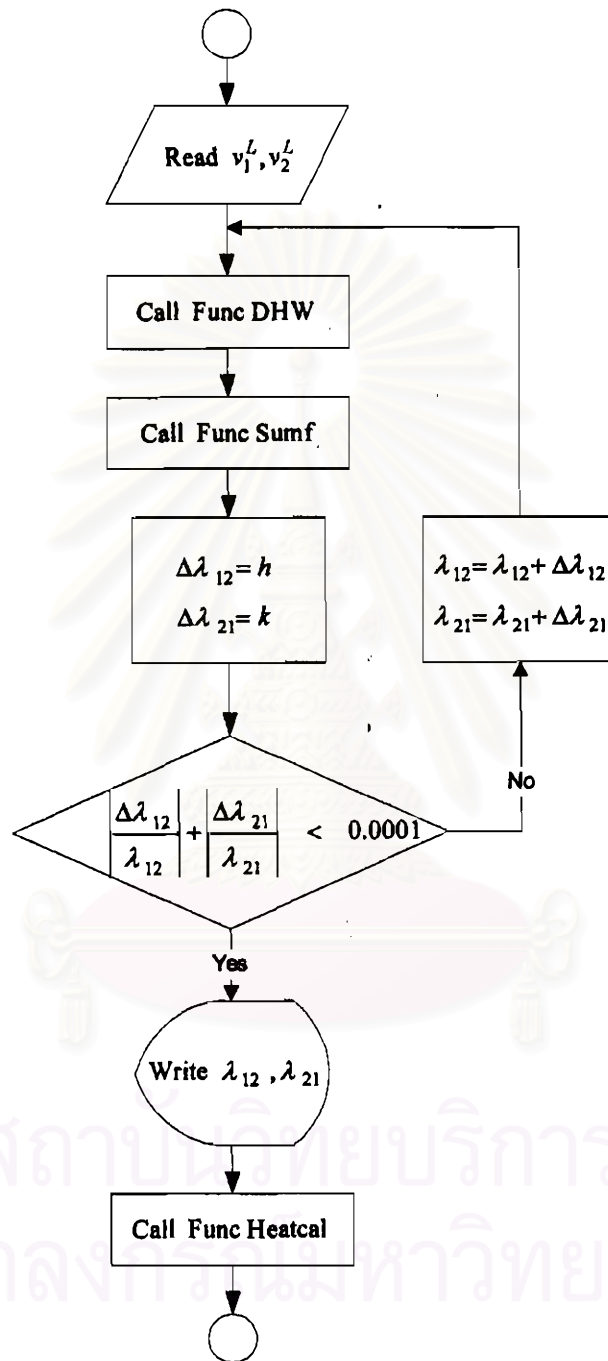

Figure 3.5 A schematic diagram of subroutine Func Wilson.
2. Calculate parameters and excess enthalpy in subroutine by using Newton Raphson method. Figure 3.5 and 3.6 illustrate the flow chart of subroutine Func Wilson, Func UNIQ, respectively.